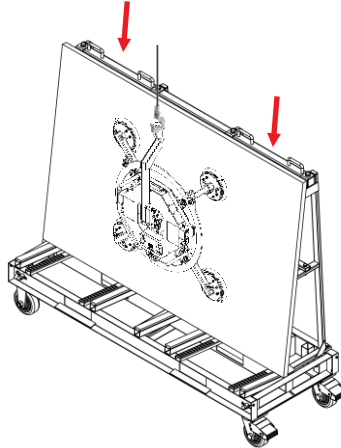

Figure 1.9
**Step 6:** Place the glass sheet at the desired location (Figure 1.9).